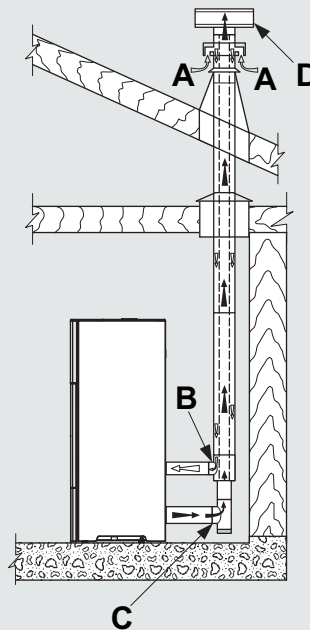

Fig. 5.5
- ducted combustion air using a coaxial pipe to discharge the flue gas and take in fresh air; consequently no fresh air vent is needed in the room (Fig. 5.5 A, B=Air intake C, D=Flue gas outlet);
For “Ermetica” series pellet stoves a special coaxial pipe can be used to both discharge the flue gas and duct the combustion air from the outside (Fig. 5.5 A, B=Air intake C, D=Flue gas outlet).